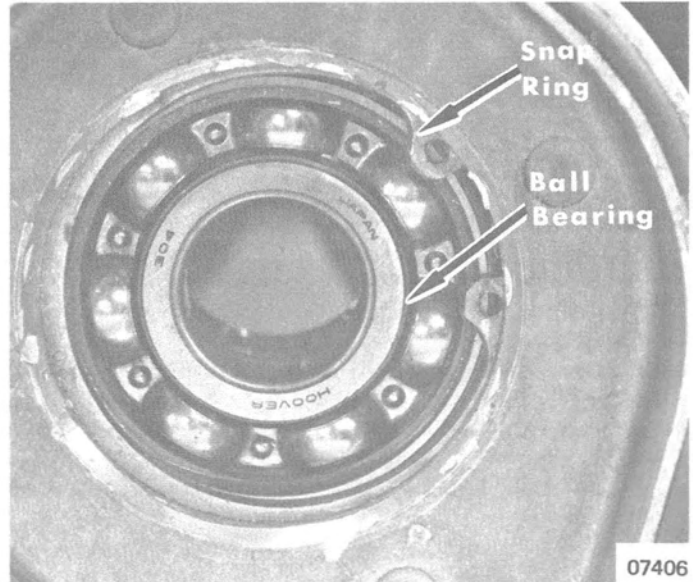

Figure 2. Removing Jackshaft Ball Bearing
8. Remove snap ring and remove ball bearing. (Figure 2)